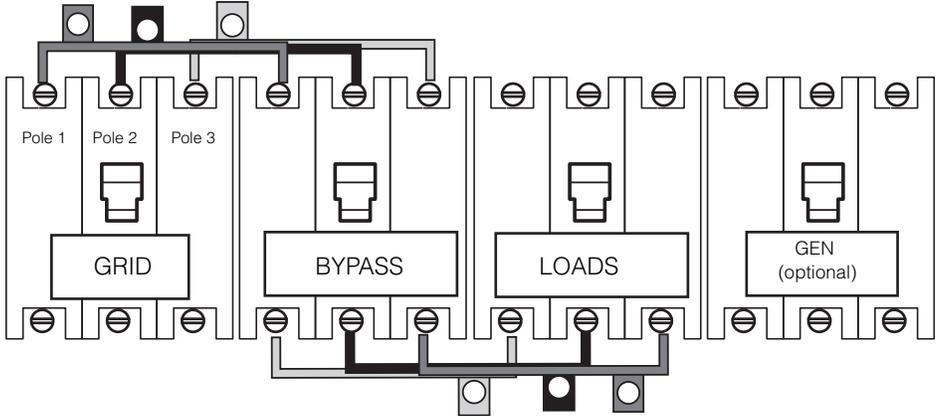

Figure 3-32 Power Distribution Jumper Installation (Three-Phase)
- 3. In the PDP, attach six two-tab power distribution jumpers in the AC breaker positions as shown in Figure 3-32 on page 3-61.